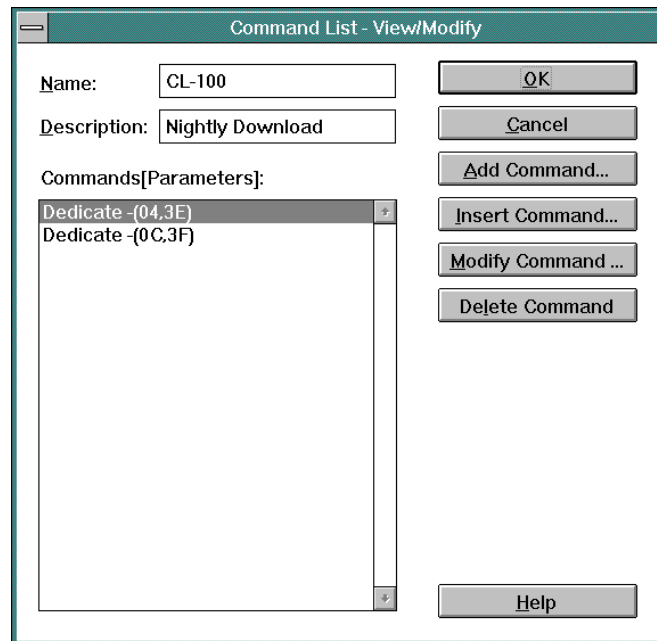

Figure 83. Command List - View/Modify Dialog Box
- **New List** - When the *New List* button is clicked, the *Command List - View/Modify* dialog box opens (Figure 83).
- **Modify List** - When a list item is selected (highlighted) and the *Modify List* button is clicked, the *Command List - View/Modify* dialog box opens (Figure 83). Dialog box functions are identical to functions described for the *New List* button.